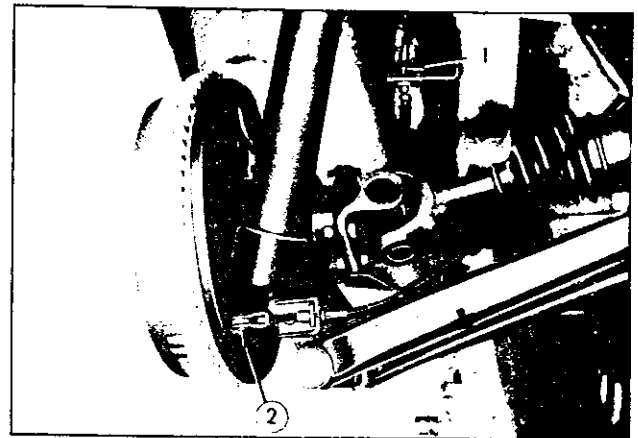

Fig. RA-10 Removing the brake hose and side brake linkage
4. Disconnect the brake line connector (body side) ① and side brake linkage ②. (Figure RA-10)